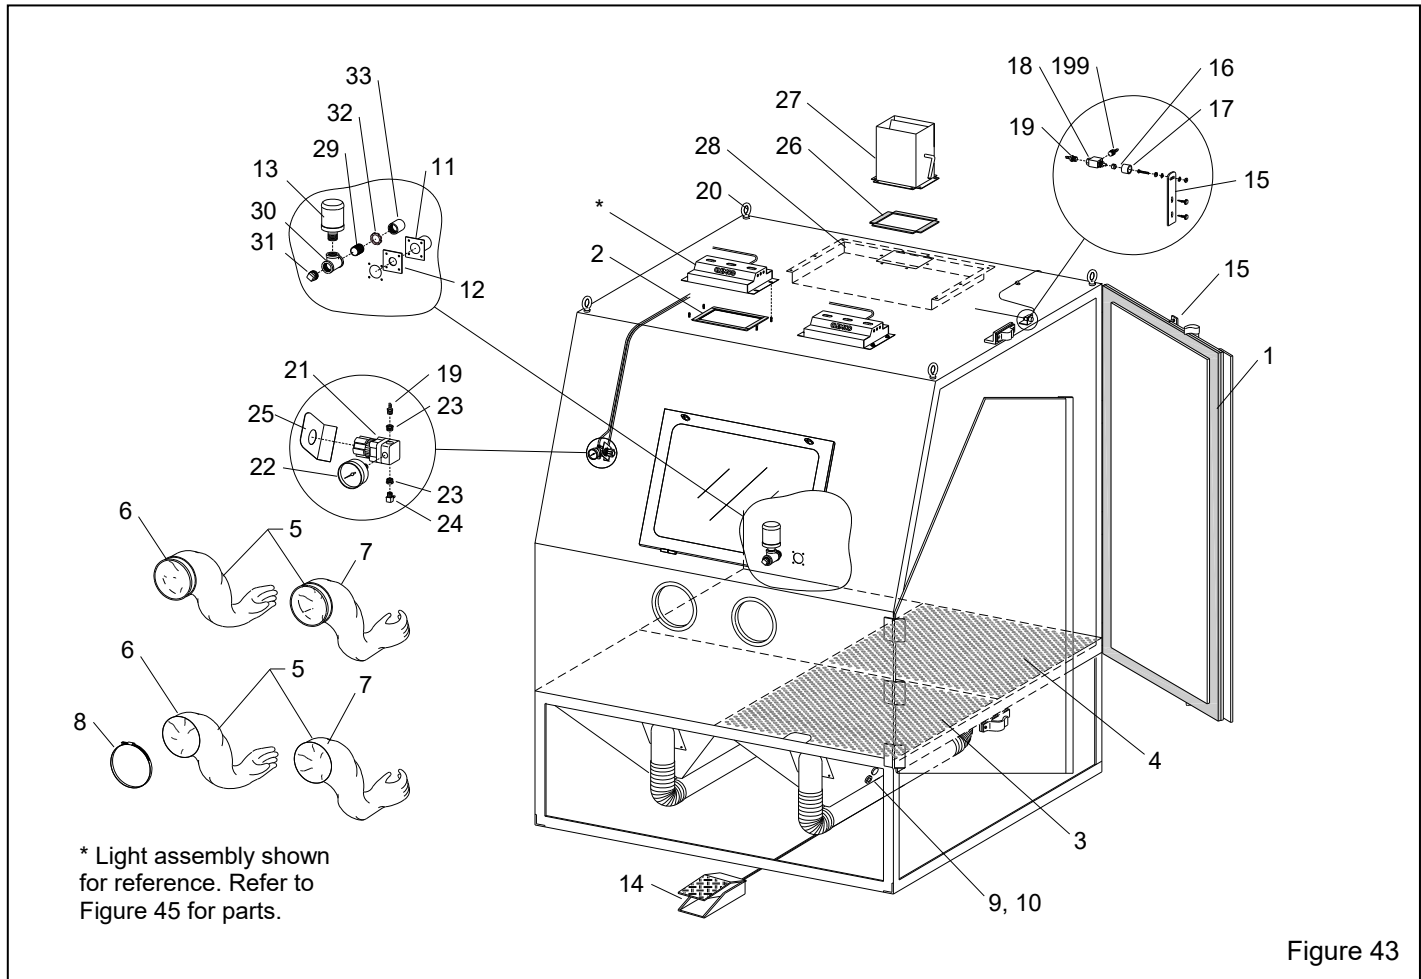

Figure 43
9.2 Cabinet Replacement Parts – Figure 43